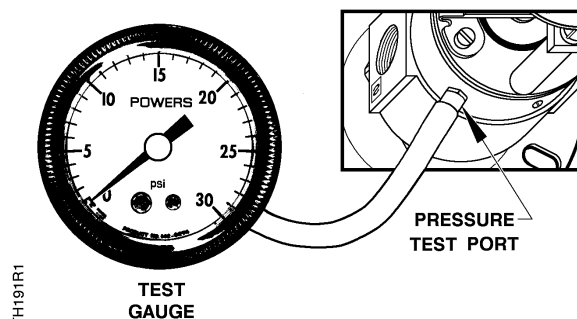

Figure 9. Using the Pressure Test Port.
4. Loosen the test port screw about 1/2 turn, and slip a 3/16-inch I.D. rubber hose connected to the test gauge over the pressure test port. See Figure 9.